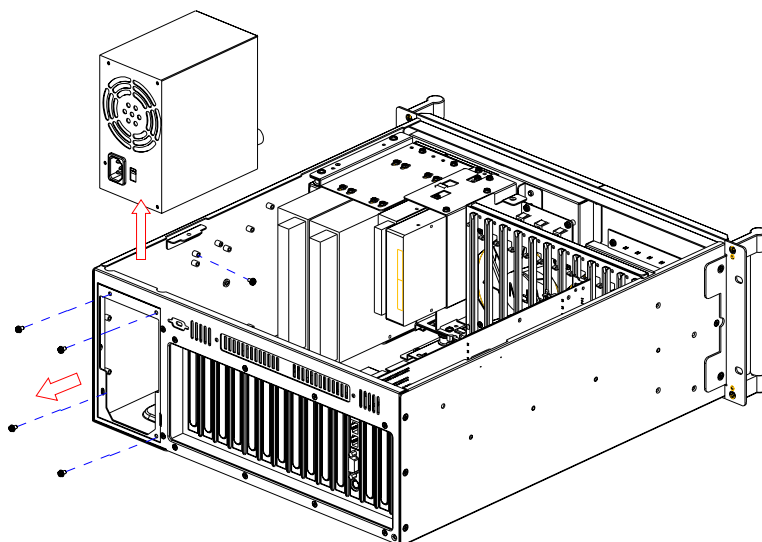

Figure 3.7 Replacing the single power supply
4. Loosen the six screws on the power supply bracket and then gently pull it up (see Figure 3.7).